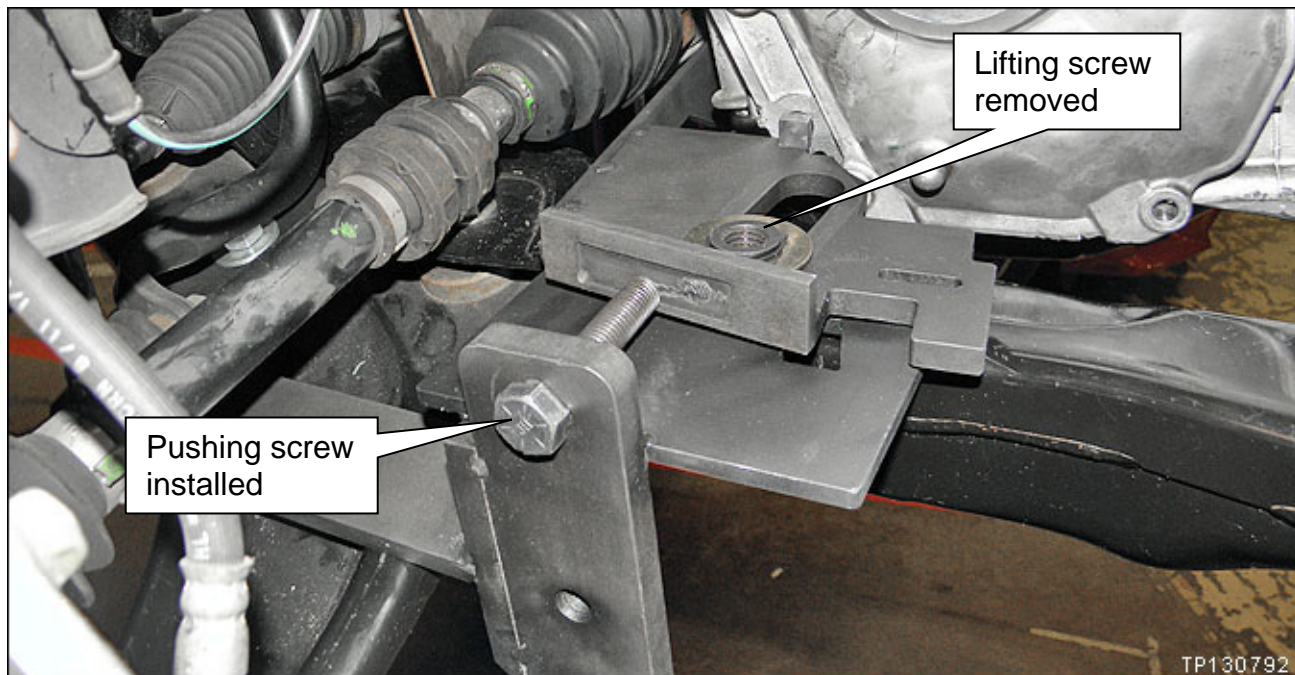

Figure 47
62. Lower and remove the lifting screw (see Figure 47).
63. Install the pushing screw all the way (see Figure 47).